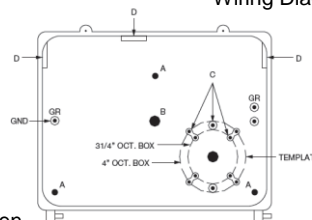

Figure 3
2. Prepare the back plate for mounting by drilling or knocking out the appropriate holes. (See Fig. 3)
4. If using electrical conduit, remove the screw cap from the desired 1/2" NPS tapped hole and replace with conduit. (See Fig.3 D) Route the branch circuit wires inside the fixture. If using a junction box, bring the branch circuit wires through the rear hole into the fixture.